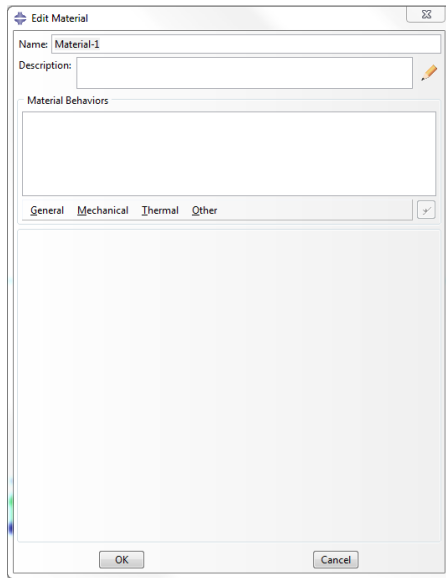

**Figure 7.** Create Part Dialog Box
- Using the left mouse button, double click **Parts** in the model tree and the **Create Part** dialog box appears. Enter a new name for the part (DECK). The **Create Part** dialog box should look identical to Figure 7.